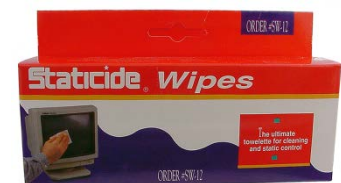

Figure 04-27 Staticide® Wipes
- Use Staticide® (Figure 04-27) on monitor screens, oscilloscope screens, and essential nonconductors and insulators required to accomplish assigned tasks within the EPA